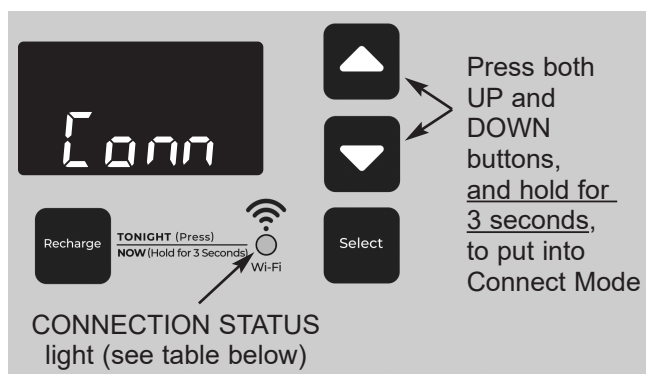

FIG. 31
3. On the water softener's front panel (see Fig. 31), press both the \triangle UP and ∇ DOWN buttons, and hold them for 3 seconds.
4. Release the buttons when “Conn” appears in the display (See Fig. 31) and the connection status light begins flashing amber.